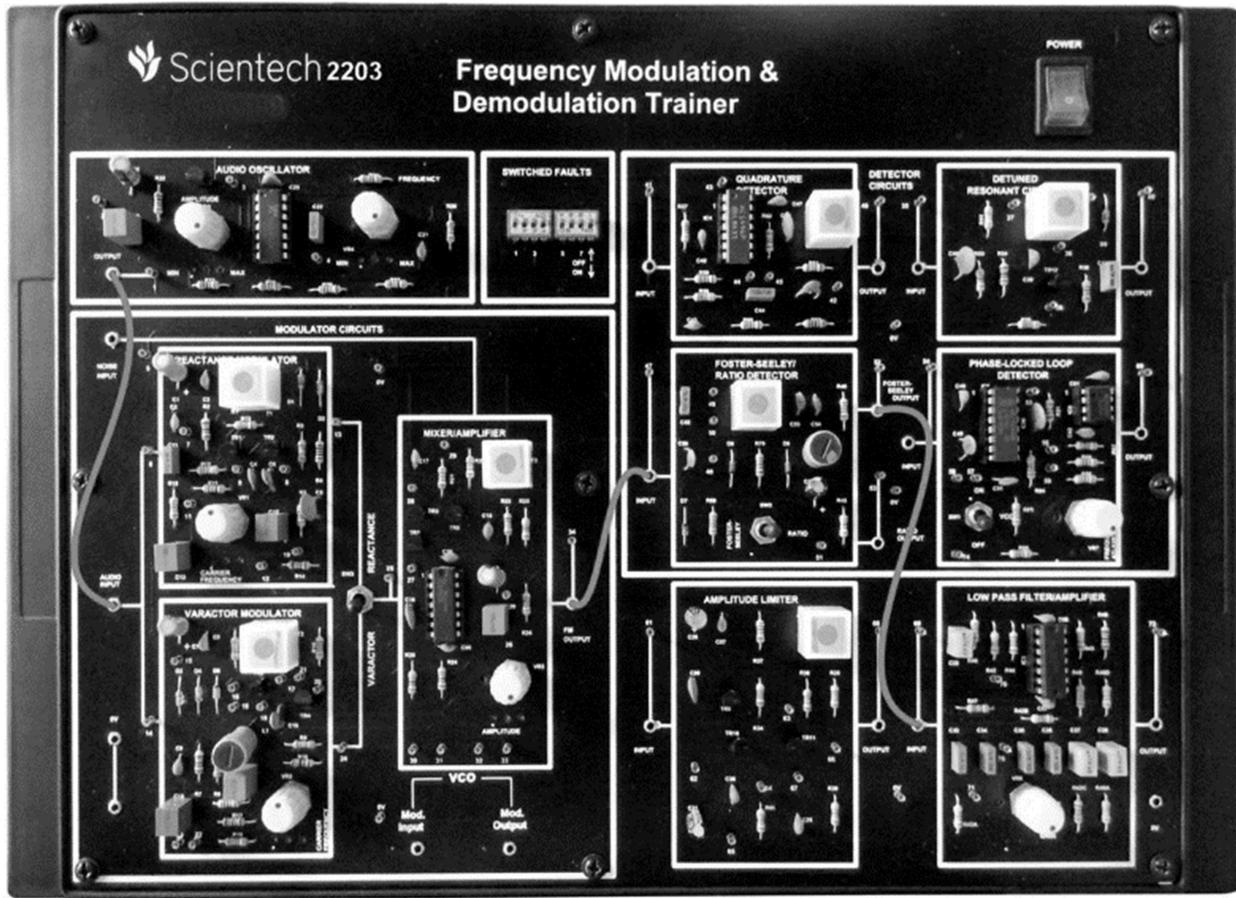

Figure 5 Connections for FM Demodulation using Foster-Seelay Detector
**Step 2** Make connection as shown in figure 5.